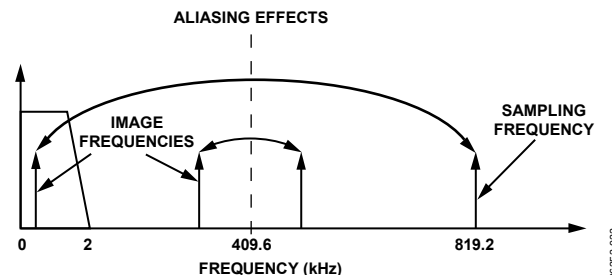

Figure 45. ADC and Signal Processing in Current Channel Outline Dimensions
Figure 44 also shows an analog LPF (RC) on the input to the modulator. This filter is present to prevent aliasing, an artifact of all sampled systems. Aliasing means that frequency components in the input signal to the ADC that are higher than half the sampling rate of the ADC appear in the sampled signal at a frequency below half the sampling rate. Figure 45 illustrates the effect. Frequency components (the black arrows) above half the sampling frequency (also known as the Nyquist frequency, that is, 409.6 kHz) are imaged or folded back down below 409.6 kHz. This happens with all ADCs, regardless of the architecture. In the example shown, only frequencies near the sampling frequency (819.2 kHz) move into the band of interest for metering (40 Hz to 2 kHz). This allows the use of a very simple LPF (low-pass filter) to attenuate high frequency (at approximately 819.2 kHz) noise and prevents distortion in the band of interest.
For conventional current sensors, a simple RC filter (single-pole LPF) with a corner frequency of 10 kHz produces an attenuation of approximately 40 dB at 819.2 kHz (see Figure 45). The 20 dB per decade attenuation is usually sufficient to eliminate the effects of aliasing for conventional current sensors. However, for a di/dt sensor such as a Rogowski coil, the sensor has a 20 dB per decade gain. This neutralizes the -20 dB per decade attenuation produced by one simple LPF. Therefore, when using a di/dt sensor, care should be taken to offset the 20 dB per decade gain. One simple approach is to cascade two RC filters to produce the -40 dB per decade attenuation needed.